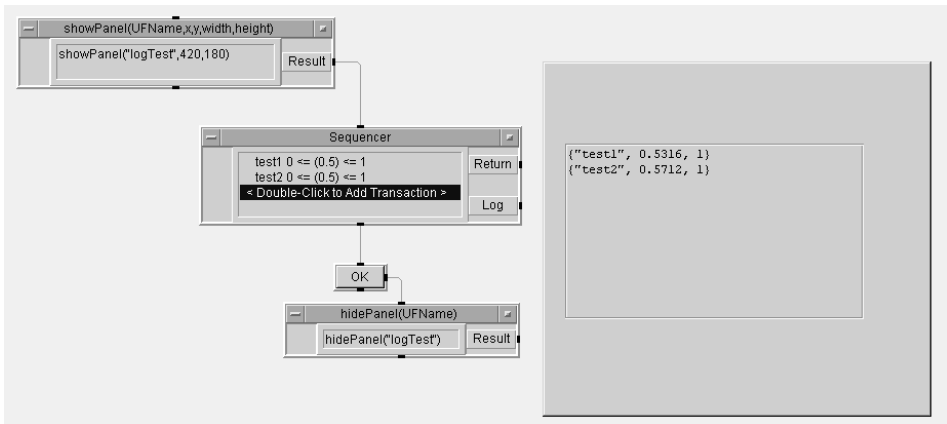

Figure 17.5. Main program after running with status panel
26. Run your program. It should look like Figure 17.5. Step through this program to see the status panel appear, update with the results from Test1, update with the results from Test2, then disappear.